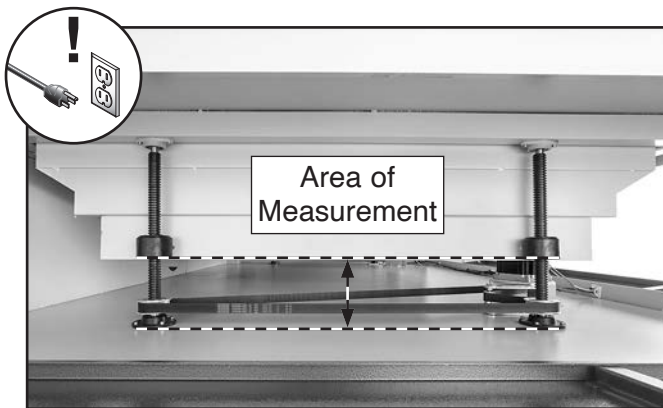

Figure 92. Leadscrew nut measurement.
2. Open front access door and lower side access door, then measure distance of each leadscrew nut from bottom of cabinet (see **Figure 92**).